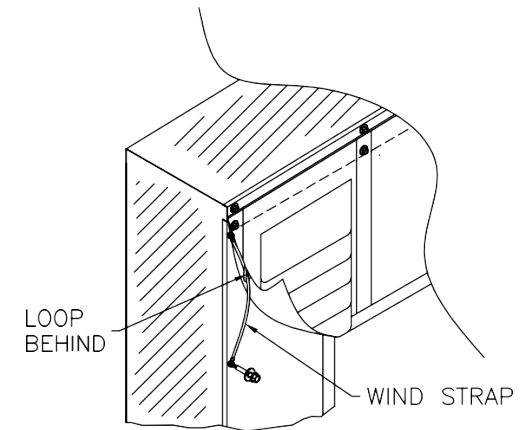

FIG 20
- b. Thread Wind Strap through Header Curtain (Figure 20).